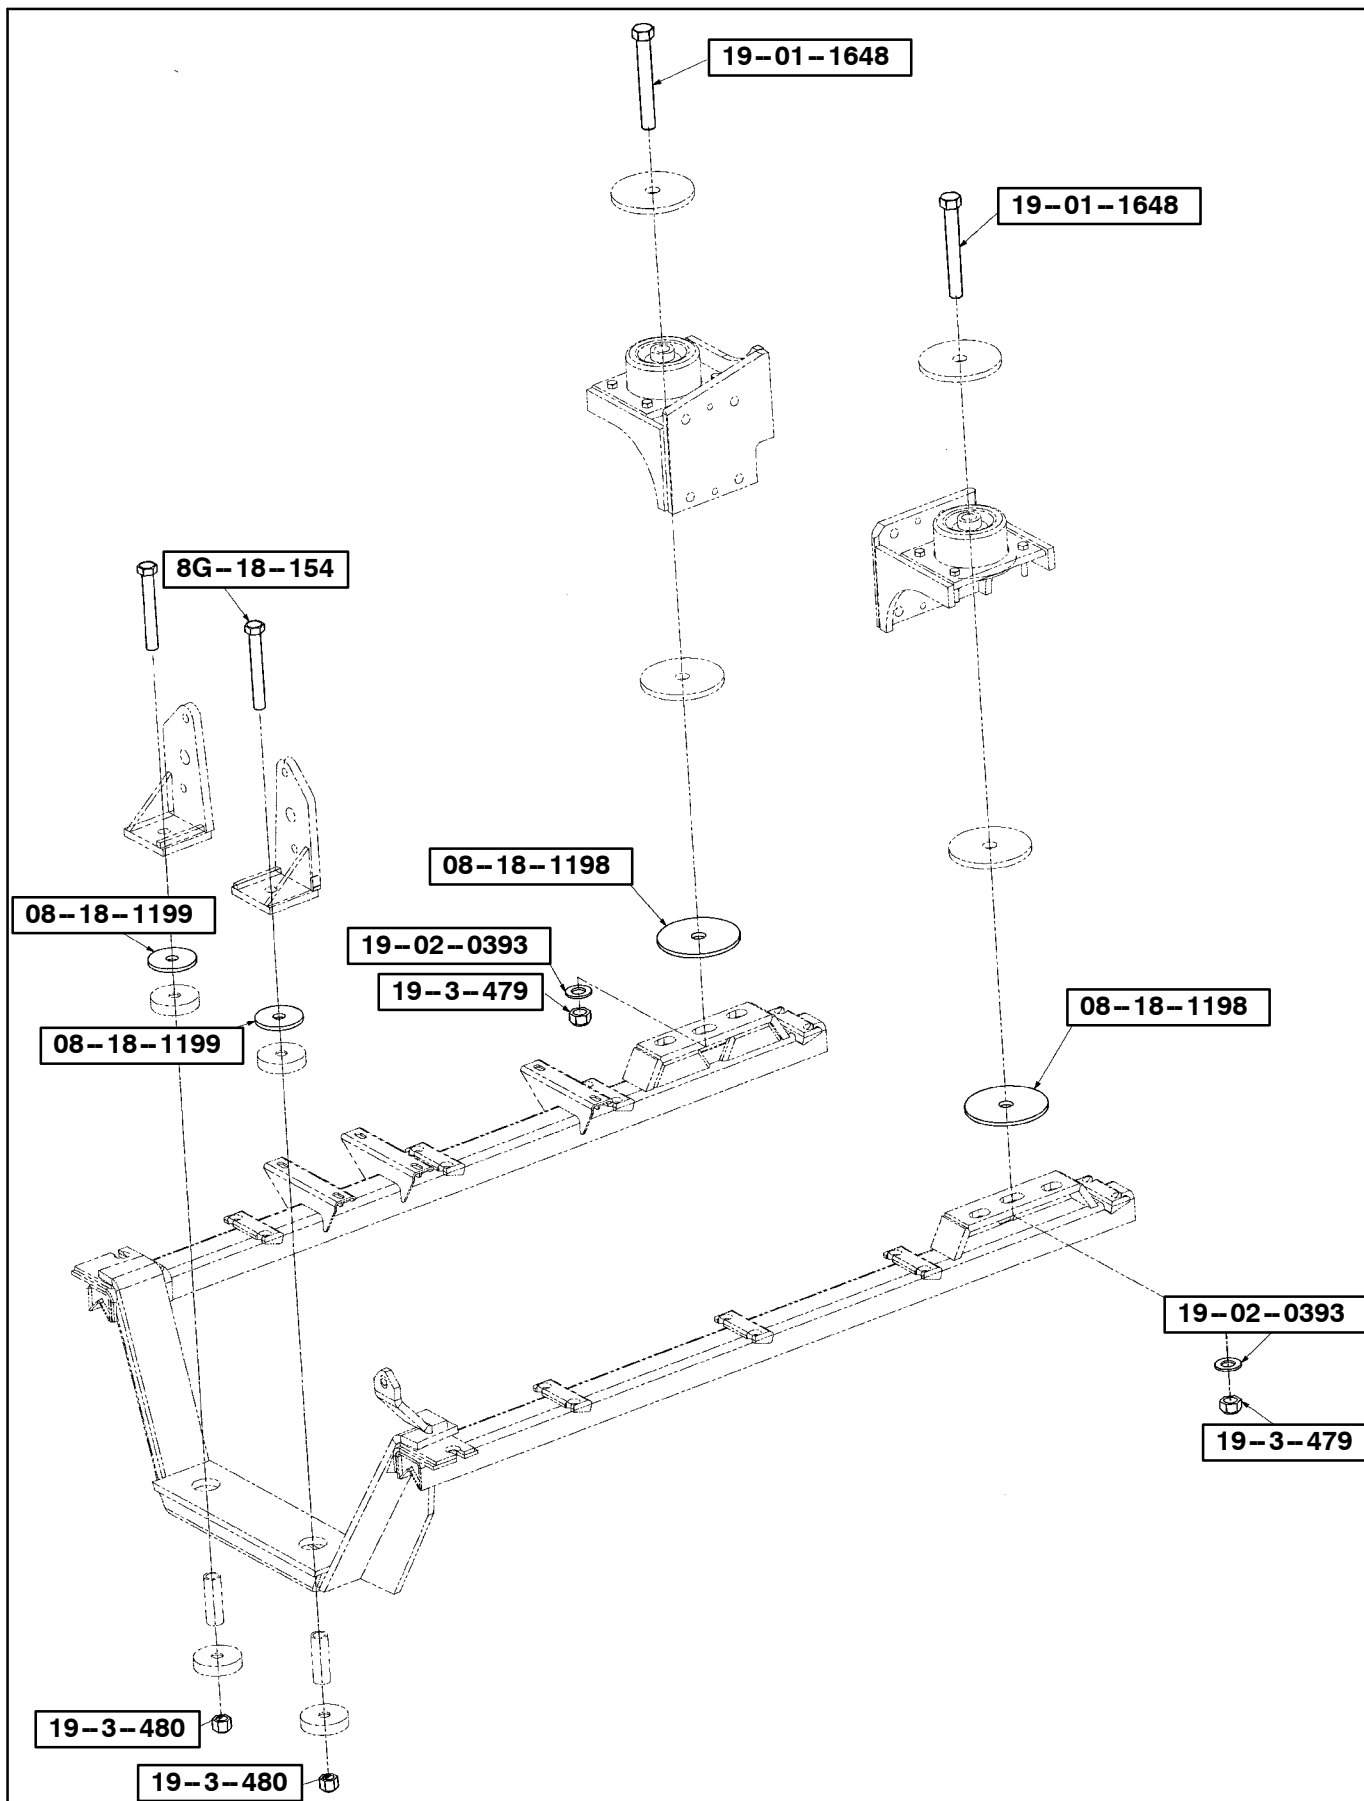

Figure 1.
3. Locate the engine cradle mounting hardware shown in Figure 1 ( four locations ).
4. Remove and discard the existing locknuts only from the four locations shown in Figure 1.
***Procedure Steps 11. to 17. are performed with the coach on a lift. Position jackstands at the front and rear frame support points, according to Figure 1, to ensure that the coach is securely supported before attempting work underneath the coach. Support the tag axle.***